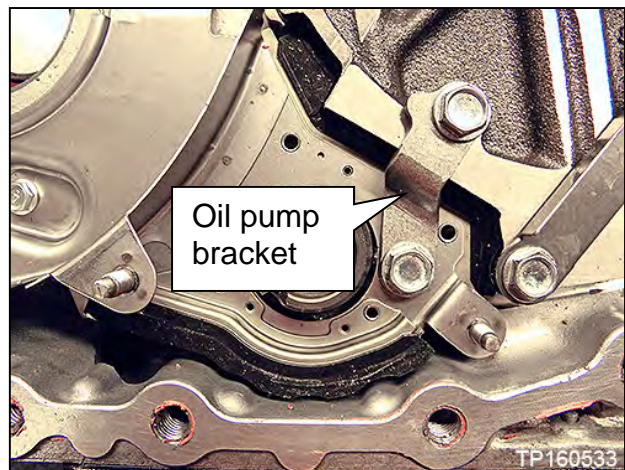

Figure 47
- c. Oil pump bracket (Figure 47).